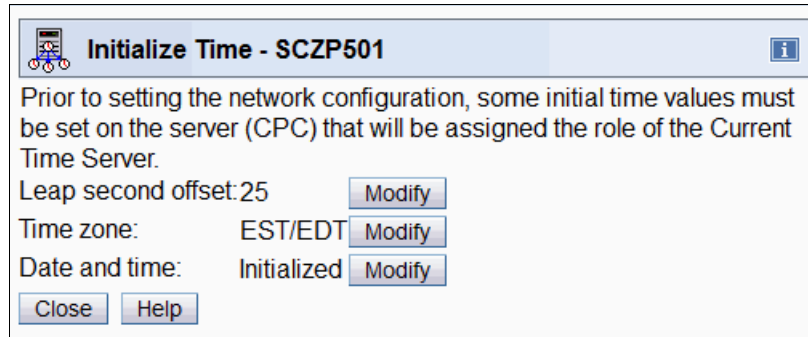

Figure 9-48 System (Sysplex) Time: Initialize Time panel after customize completed
- The Initialize Time panel opens again (Figure 9-48). Verify that the settings are correct. Click **Close** to complete the process of initializing the time.